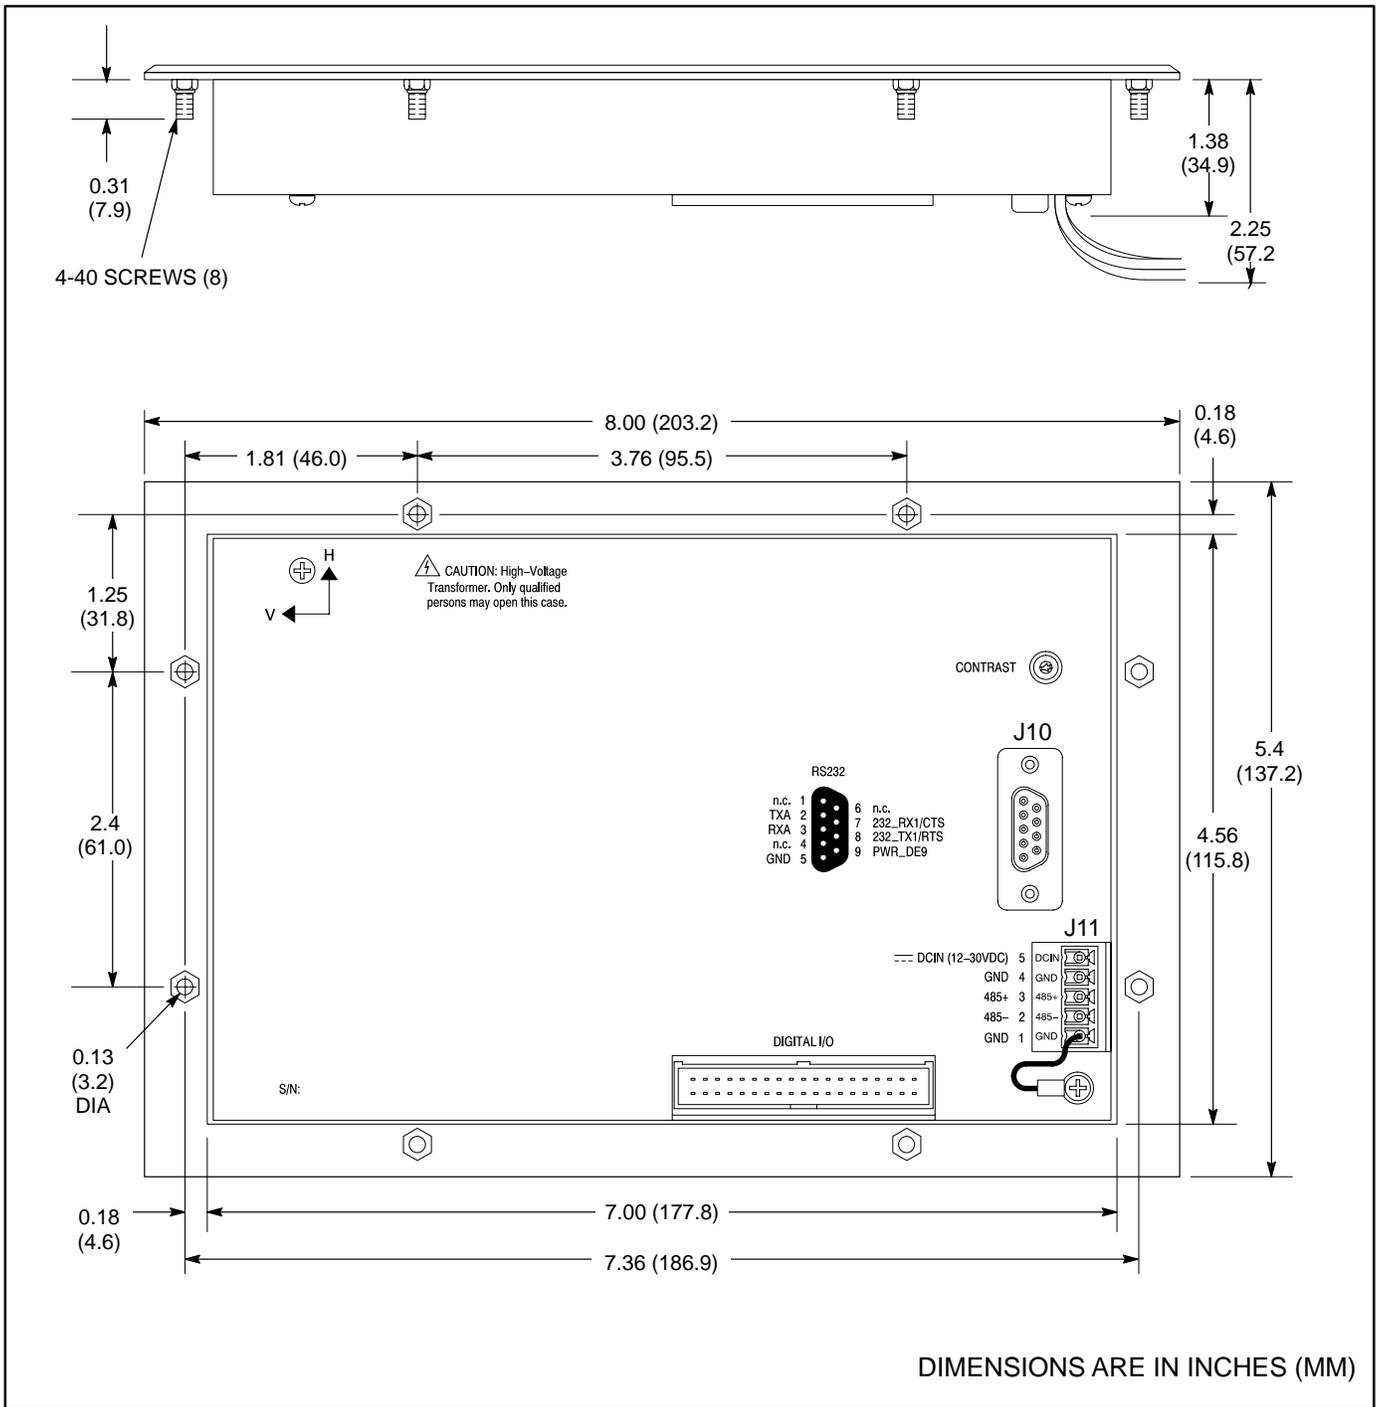

FIGURE 4-1. TOUCH SCREEN DISPLAY
1. Choose a location that provides adequate clearance for the communications cable (see Figure 4-1) and is within 3 feet (91 cm) of the Master Node.
4. Drill mounting holes as shown in Figure 4-1.